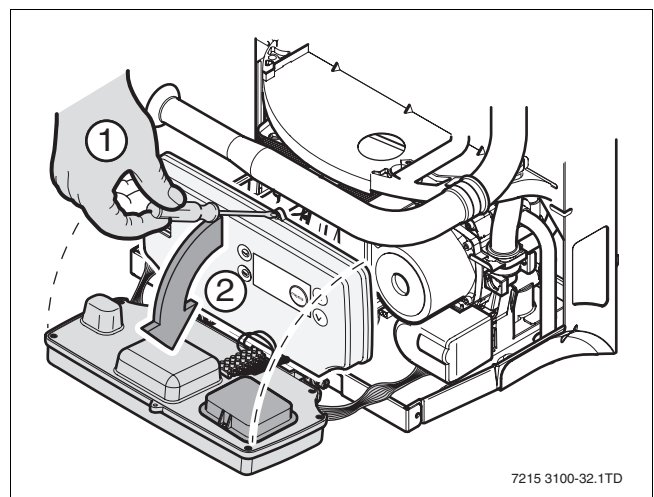

Fig. 32 Lower the DBA
- Remove the securing screw (→ fig. 32, item 1).
- Lower the boiler control unit (DBA) (→ fig. 32, item 2).
- Remove the securing screw (→ fig. 32, item 1) and lower the Boiler Control Unit (DBA) (→ fig. 32, item 2).
- Remove the securing screw and lower the DBA (→ fig. 32).
- Remove the securing screw of the DBA and lower the DBA (→ fig. 32).